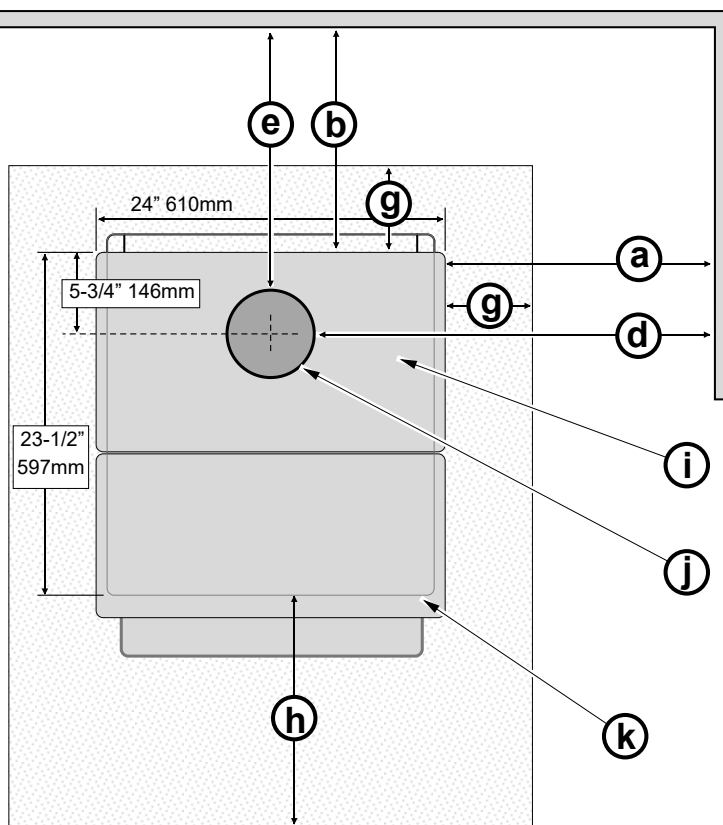
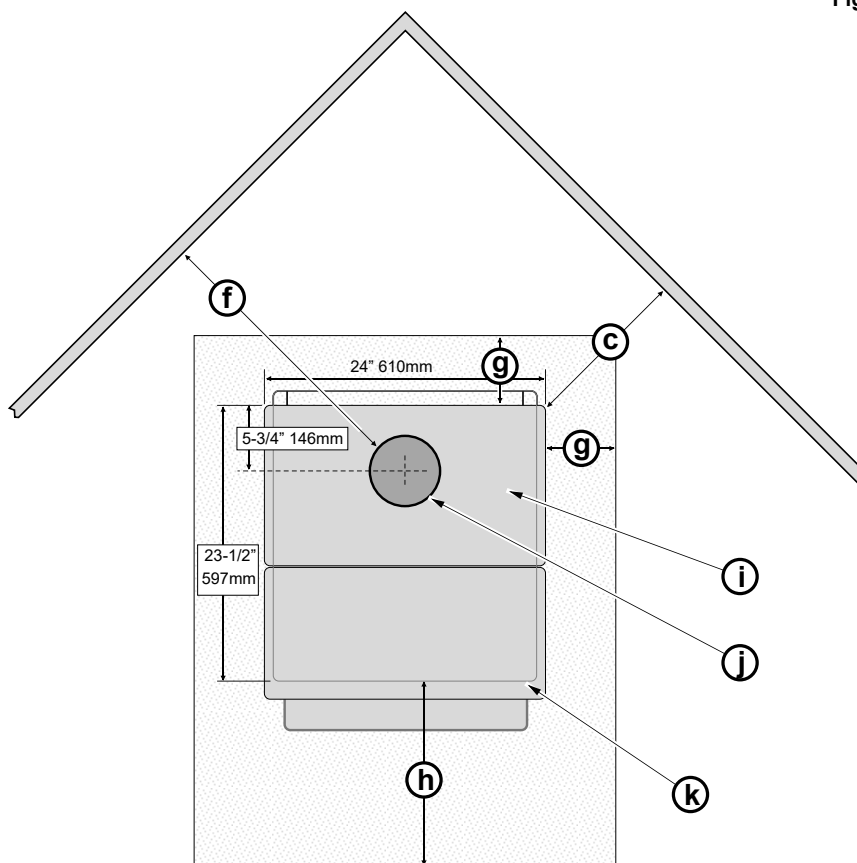

Figure 2
Figure 3
- The following clearances must be met (see Figure 2 and Figure 3)